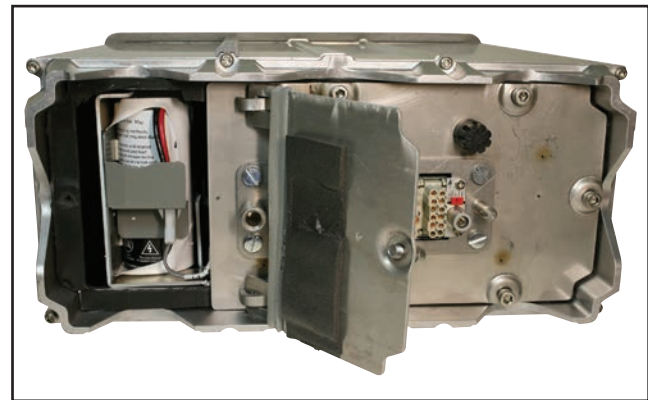

Figure 5. Opening the battery compartment cover.
- STEP 2.** Open the battery compartment cover. See Figure 5.